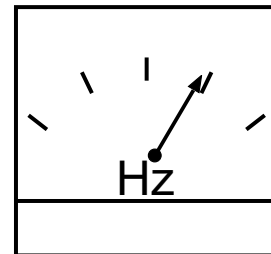

Figure 28. Frequency Meter
- The generator's frequency meter (Figure 28) should be displaying the 60 cycle output frequency in **HERTZ**.